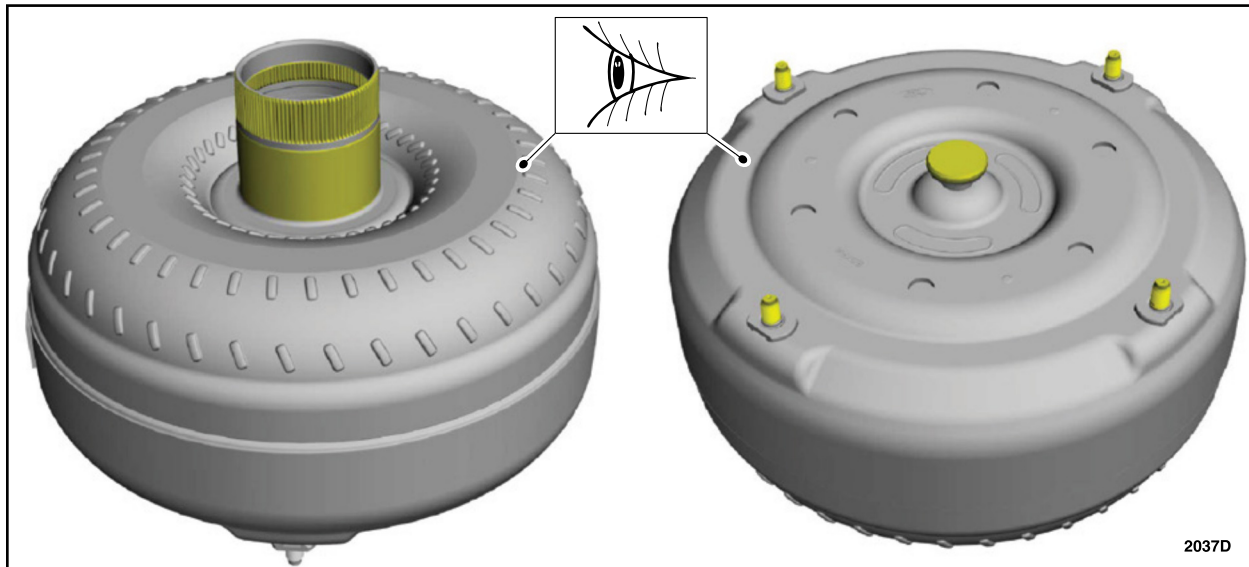

FIGURE 4
5. Inspect the torque converter. If you answer yes to any of the following questions a new or re-manufactured torque converter must be installed. See Figure 4.